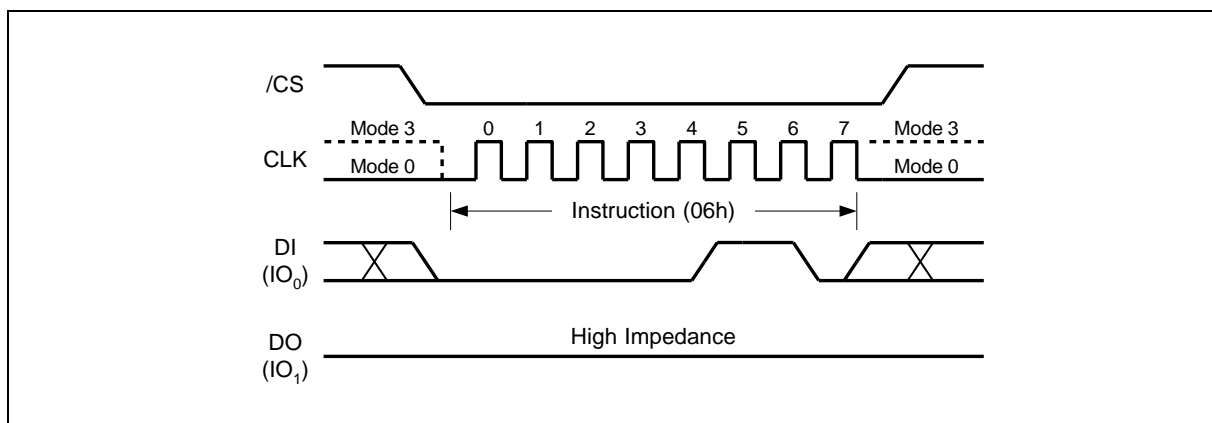

Figure 4. Write Enable Instruction Sequence Diagram
Instructions vary in length from a single byte to several bytes and may be followed by address bytes, data bytes, dummy bytes (don't care), and in some cases, a combination. Instructions are completed with the rising edge of edge /CS. Clock relative timing diagrams for each instruction are included in figures 4 through 25. All read instructions can be completed after any clocked bit. However, all instructions that Write, Program or Erase must complete on a byte boundary (CS driven high after a full 8-bits have been clocked) otherwise the instruction will be terminated. This feature further protects the device from inadvertent writes. Additionally, while the memory is being programmed or erased, or when the Status Register is being written, all instructions except for Read Status Register will be ignored until the program or erase cycle has completed.
The Write Enable instruction (Figure 4) sets the Write Enable Latch (WEL) bit in the Status Register to a 1. The WEL bit must be set prior to every Page Program, Sector Erase, Block Erase, Chip Erase and Write Status Register instruction. The Write Enable instruction is entered by driving /CS low, shifting the instruction code "06h" into the Data Input (DI) pin on the rising edge of CLK, and then driving /CS high.